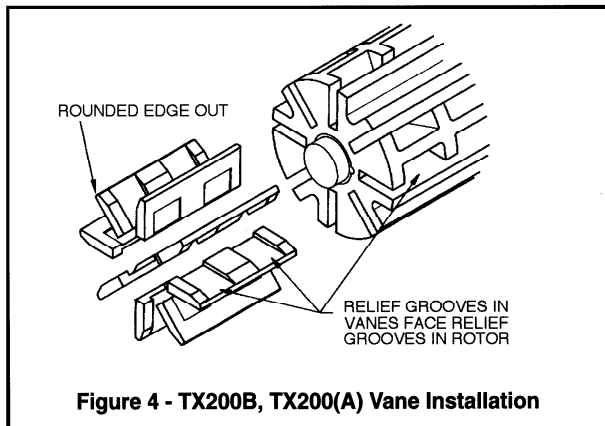

Figure 4 - TX200B, TX200(A) Vane Installation
- a. **TX200B, TX200(A) Series** - The relief grooves in the vanes must face the relief grooves in the rotor (see Figure 4).
8. Remove the vanes (14) and push rods (77) from the rotor and shaft assembly. Inspect for wear and damage, and replace as follows:
- a. Partially install the non-driven end of the rotor and shaft (13) into the open side of the pump cylinder.
- b. Leave part of the rotor outside of the cylinder so that the bottom vanes can be installed and held in place as the push rods are installed in the push rod holes of the rotor. Insert the new vanes into the rotor slots with the rounded edge outward, and the relief grooves positioned as shown in Figures 4 and 5, page 8.